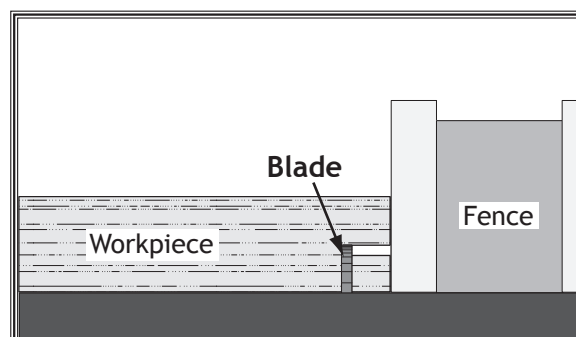

Figure 91. Second rabbet cut with a single blade.
7. Lay the workpiece flat on the table, as shown in **Figure 91**, adjust the saw blade height to intersect with the first cut, then perform the second cut to complete the rabbet.